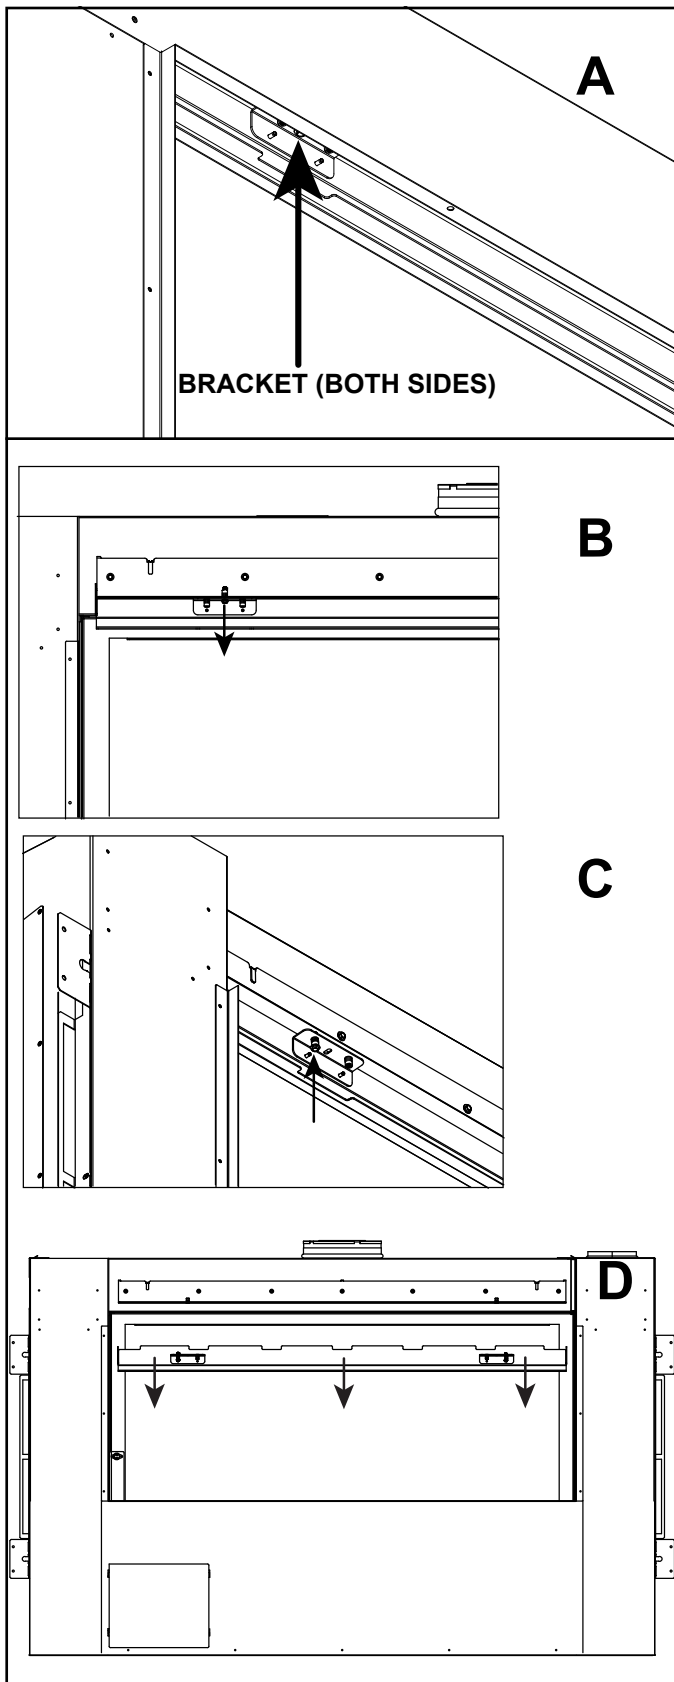

Figure 11.13 Removing Glass Retainer Bar Assembly
2. Locate the brackets, on the left and right sides of the glass retainer bar assembly, that hold the glass in position. See Figure 11.13 (A). Remove the screw from the hole in the center of the bracket. See Figure 11.13 (B).
3. Using a hand tool only, start the threads of the screw into the rivnut in the bracket shown in Figures 11.13 (C) and 11.14. This will hold the screw until it is needed for reassembly.
5. Remove the glass retainer bar assembly. See Figure 11.13 (D).